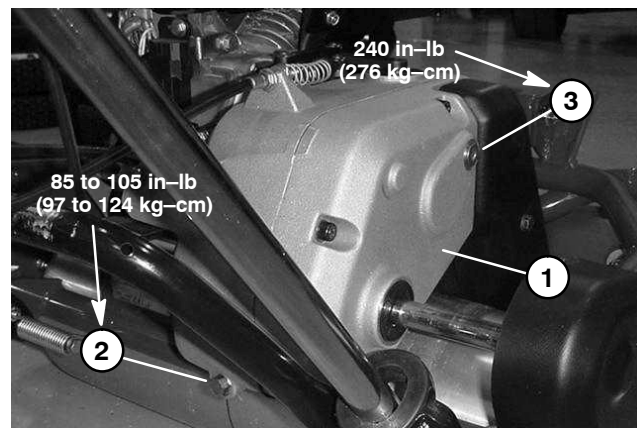

Figure 30
3. Remove the drain plug from the rear of the gearbox assembly (Fig. 30).
4. Push down on the handle and tip the machine back. Remove the check/fill plug with O-ring from the right side of the gearbox (Fig. 30).